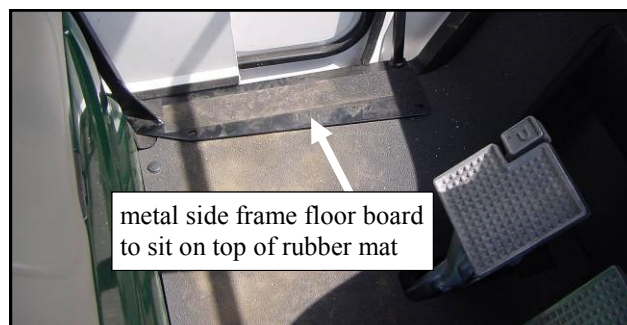

Fig. 2.4a (view from right side)
2.4 Per fig. 2.4a, lift and push the side frame floor board in towards the center of the vehicle so the holes line up.